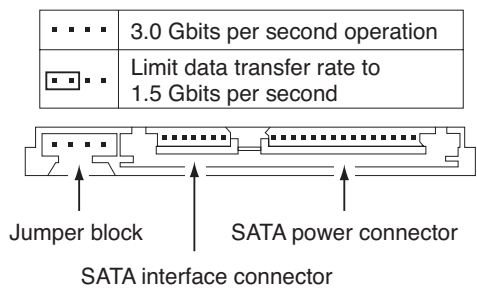

Figure 3. Serial ATA connectors
- Install a jumper as shown in Figure 3 below to limit the data transfer rate to 1.5 Gbits per second (and leave the drive connected to the SATA-equipped motherboard or host adapter that doesn't support autonegotiation) or
- Install a SATA host adapter that supports autonegotiation, leave the drive jumper block set to “Normal operation” (see Figure 3 below), and connect the drive to that adapter. This option has the benefit of not limiting the drive to a 1.5 Gbits/sec transfer rate.